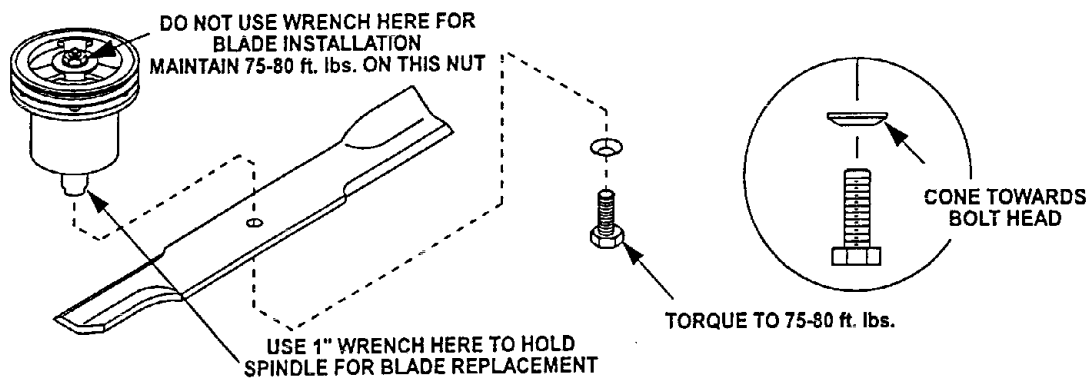

FIG. 1
- d) Torque blade bolts to 75-80 ft.lbs. Be sure the spring disk washer cone is installed toward the bolt head (See Figure 1).